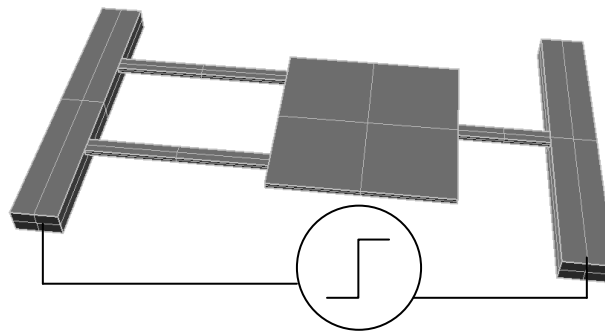

Figure 3
3. Suppose a step-function voltage  $V_A$  were suddenly applied across the anchors of a  $2\text{ }\mu\text{m}$  thick polysilicon beam and proof mass setup as shown in Figures 3 and 4, which also provide lateral dimensions. For polysilicon, assume the following material properties: Young's modulus  $E = 150\text{ GPa}$ , density  $\rho = 2,300\text{ kg/m}^3$ , Poisson ratio  $\nu = 0.226$ , sheet resistance  $= 10\text{ }\Omega/\square$ , specific heat  $= 0.77\text{ J/(g}\cdot\text{K)}$ , and thermal conductivity  $= 30\text{ W/(m}\cdot\text{K)}$ .